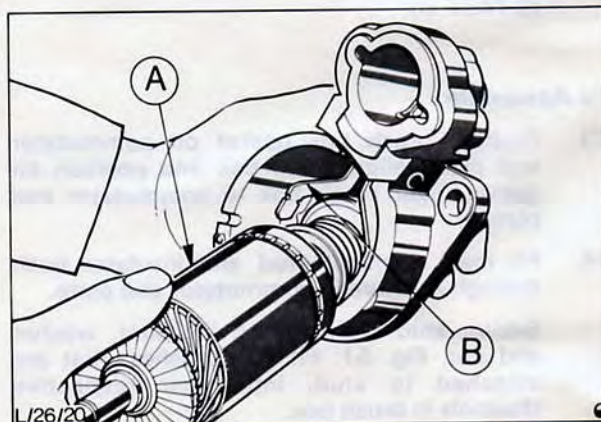

Fig. 53. Armature assembly in drive end housing
19. Guide armature assembly into drive end housing, at the same time couple actuating arm into locating lugs on drive pinion assembly, Fig. 53.